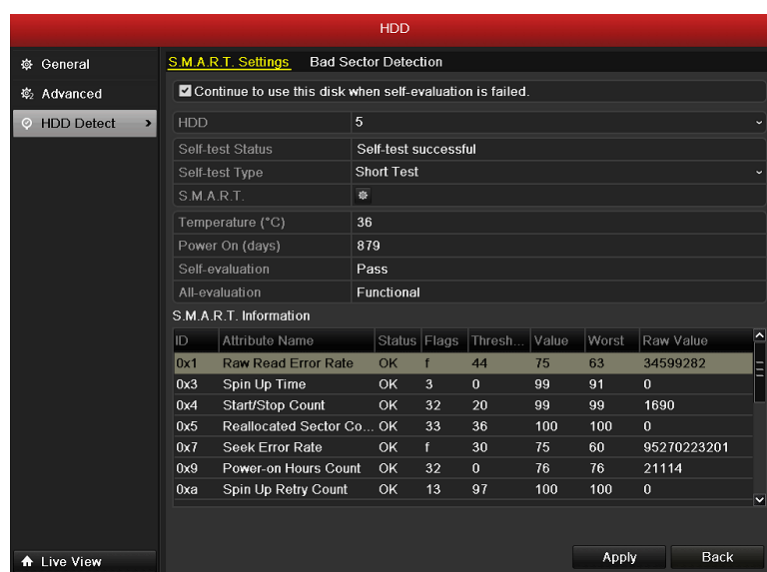

Figure 10.22 S.M.A.R.T. Settings Interface
2. Select the HDD to view its S.M.A.R.T. information list, as shown in Figure 10.22.